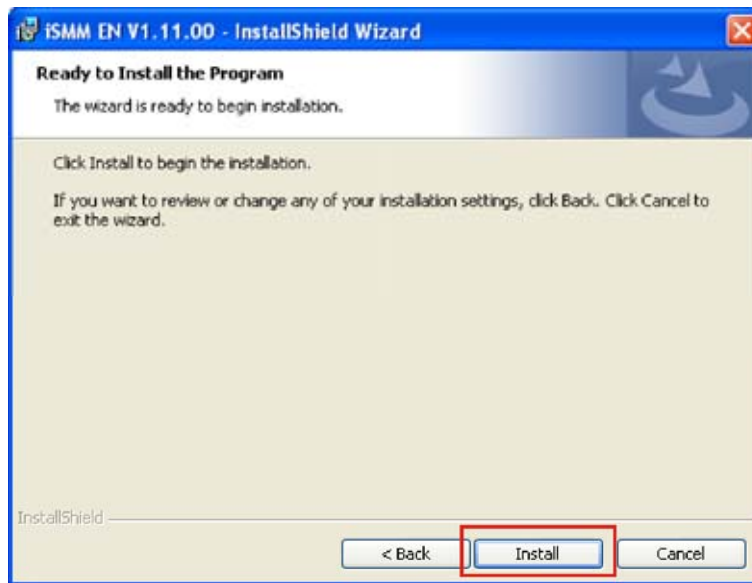

Figure 7-35: iSMM Installation Confirmation
Step 81: The Installation Confirmation screen appears. (Figure 7-35)
Step 82: Click **INSTALL** to begin installing the drivers. (Figure 7-35)